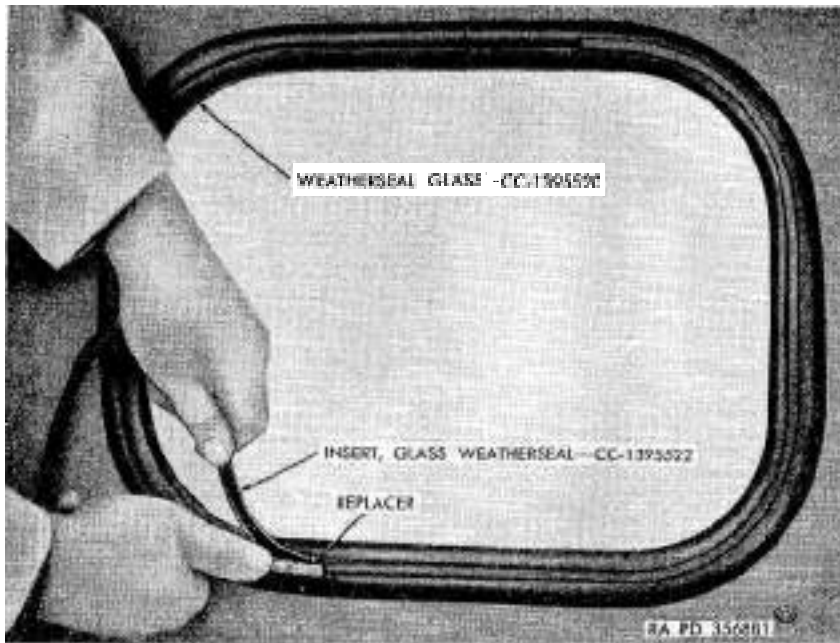

Figure 208. Installing glass weatherseal insert with an improvised weatherseal insert replacer.
- (1) Position glass weatherseal (EE) around opening in door with joint at top and weatherseal insert opening on lock side of door.
- (2) Position door glass in weatherseal.
- (3) Apply a liberal coating of liquid soap over entire surface of glass weatherseal insert (F). Position end of weatherseal insert 3 inches either side of weatherseal joint and install insert with an improvised weatherseal insert replacer (*fig. 208*). A satisfactory replacer can be fabricated locally (*fig. 8*).